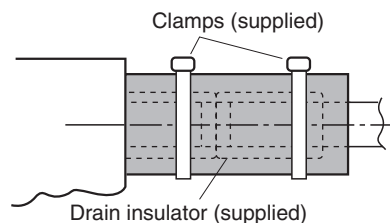

Fig. 1-75
- (2) After connecting the drain piping securely, wrap the supplied packing and drain pipe insulator around the pipe, then secure it with the supplied clamps. (Fig. 1-75)